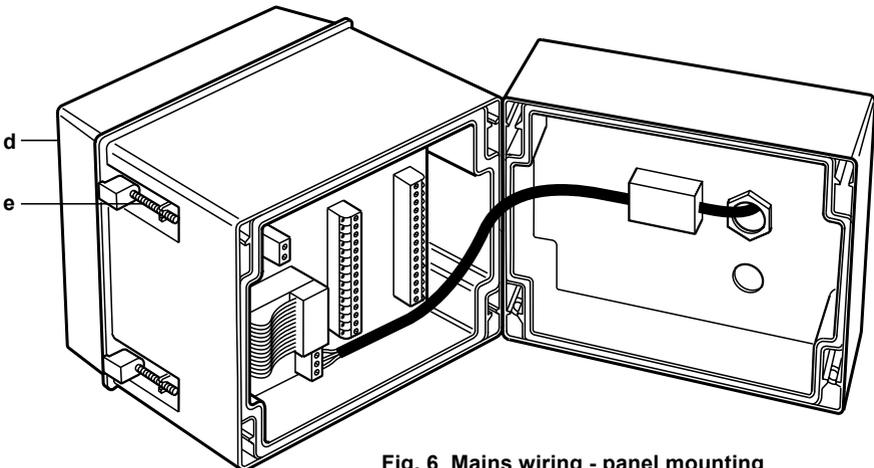

Fig. 6 Mains wiring - panel mounting
4. Extend the clamping legs 'e' (Figure 6, page 11) to engage with the back of the panel. Tighten the four clamping screws 'd' (Figure 6, page 11) through the access holes in the R16C front panel bezel.